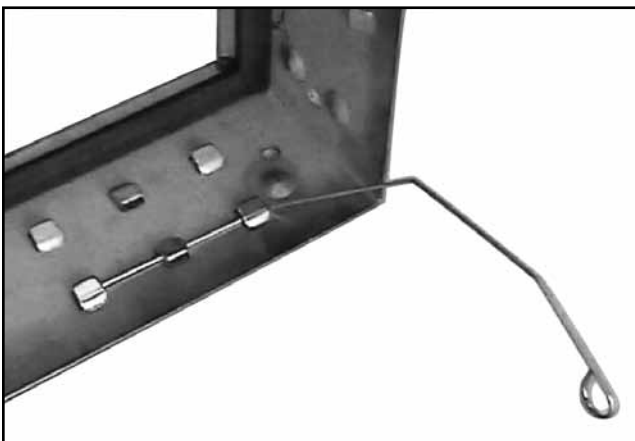

Figure 38 – Correctly installed latch; AAF 315-004-003 shown as an example.
1. Insert the straight end of the latch between the two (2) knockouts furthest from the corner.
3. The latch installation should now be complete. The latch should now be "trapped" within the three (3) knockouts, but should be able to freely rotate (see Figure 38). Repeat the installation process with the remaining latches in the other three corners.